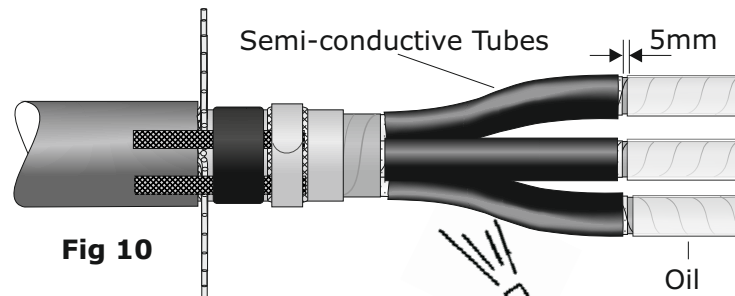

Fig 10
14. Position the black semi-conductive tubes over each core ensuring 5mm of the core screens are visible. With a suitable heat source gently shrink the tubes into place starting from the open end working towards the crutch as shown in Fig 10.